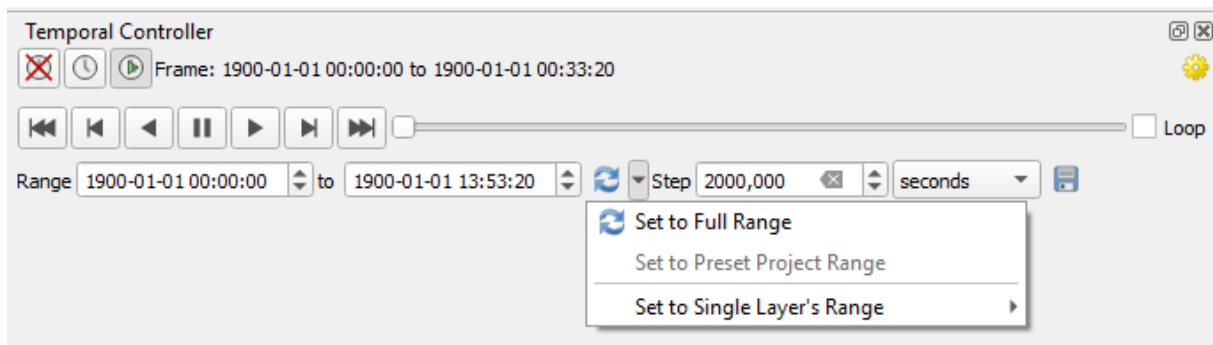

Figure 8: Temporal Controller to view result parameter timesteps.
2. Click “Set to Full Range” (see Figure 8).